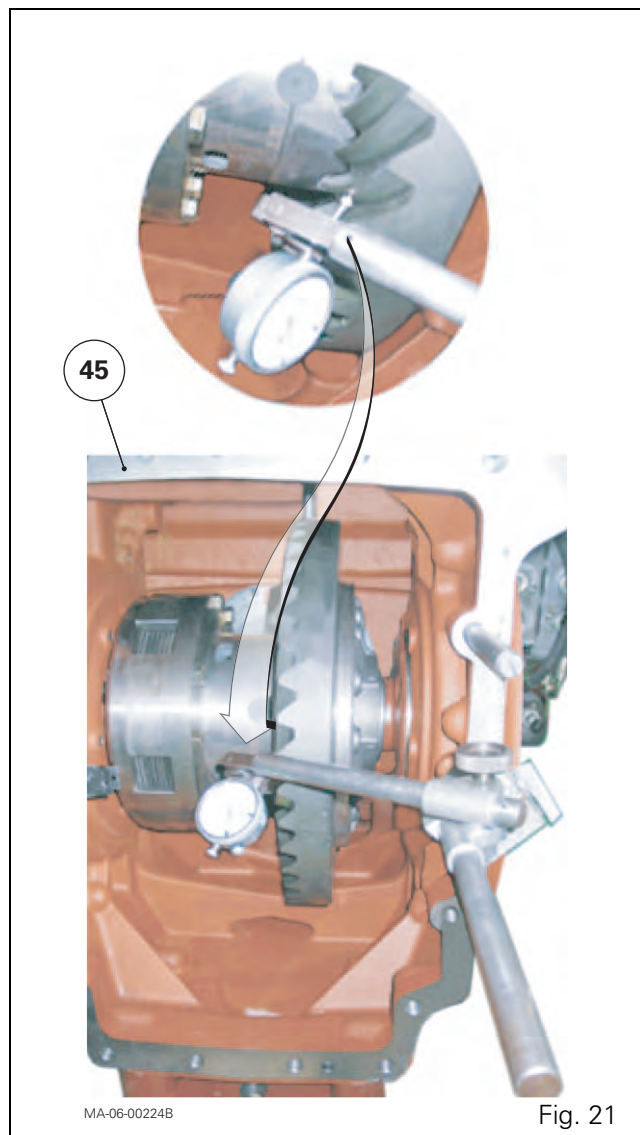

Fig. 21
128. Through the opening on the rear compartment of the centre housing (45), place the feeler pin of a dial gauge half way across the length of a tooth of the ring gear (Fig. 21).